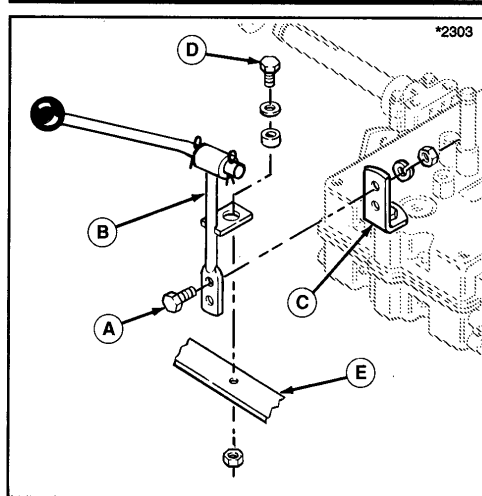

Figure 30.
3. Remove the two capscrews (A, figure 30), lockwashers, and nuts securing the gear shift lever (B) to transmission bracket (C).
4. Open the seat deck and remove capscrew (D), flat washer, spacer and nut securing gear shift (B) to frame (E).